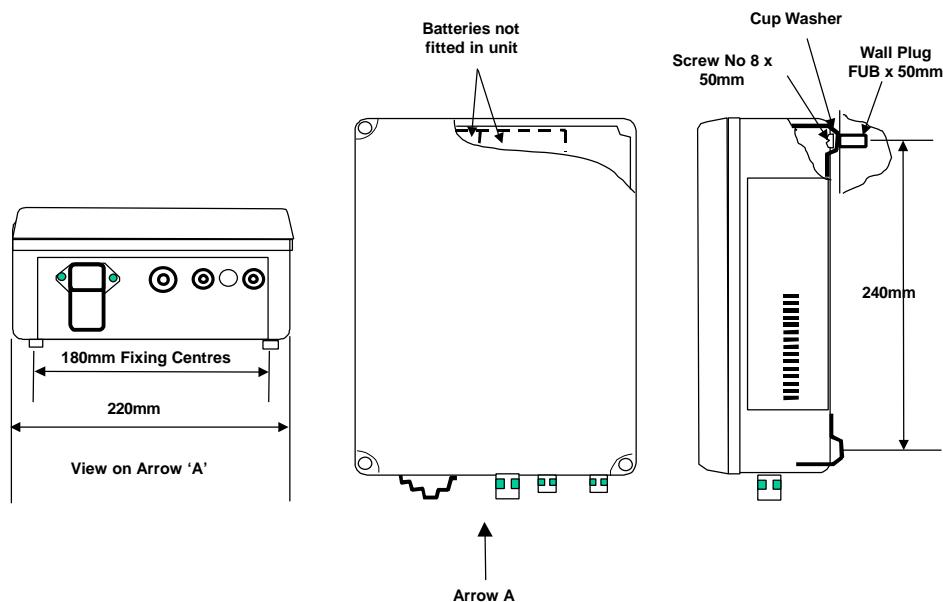

Figure 10. PSU Positioning and Securing
4. Mark the wall fixing positions using the drilling template supplied. The ACPSU should be fitted with the batteries towards the top and the mains input connector at the bottom. (See Figure 10).